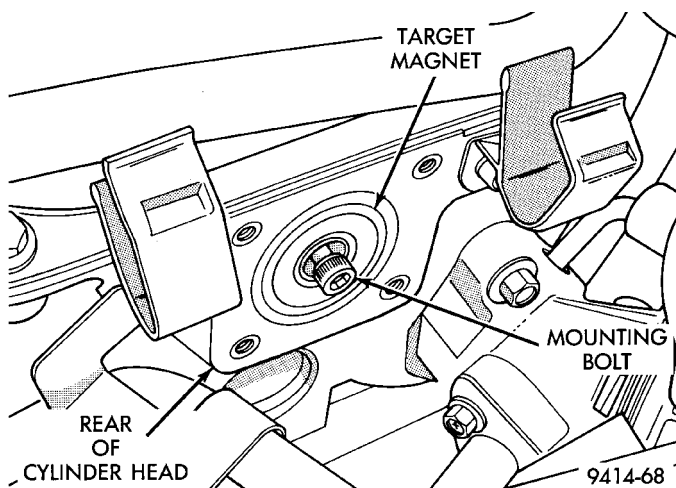

Fig. 33 Target Magnet Removal/Installation
- (1) Disconnect the filtered air tube from the throttle body and air cleaner housing. Remove filtered air tube.
- (2) Remove the air cleaner inlet tube.
- (3) Disconnect electrical connectors from engine coolant sensor and camshaft position sensor.
- (4) Remove brake booster hose and electrical connector from holders on end of cylinder head cover.
- (5) Remove camshaft position sensor mounting screws. Remove sensor.
- (6) Loosen screw attaching target magnet to rear of camshaft (Fig. 33).